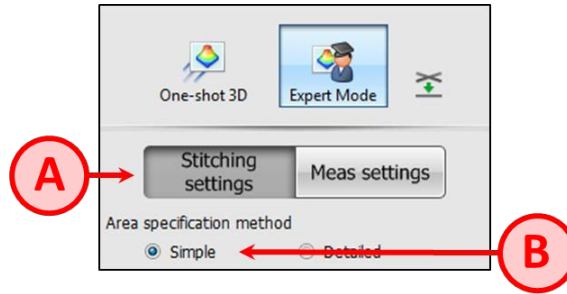

Figure 4 - Stitching Settings under 3D Measurement Tab
- 1.6. Under the *Expert Mode* option of the *3D Measure* tab (Figure 4):